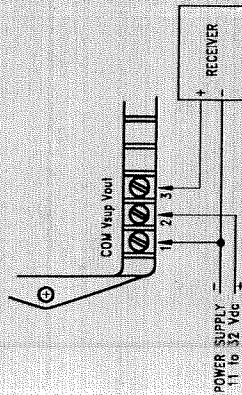
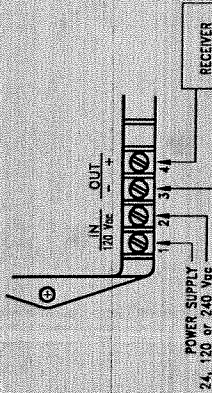

Figure 1
Figure 2
A. Series T10 or T20- With the voltmeter connected across the signal terminals (see Figure 1 or Figure 2, respectively), apply full pressure to the instrument and adjust the Span potentiometer R1, until the output reading is 5.00V (if 0-5V Span) or 10.00V (if 0-10V Span).
- There are three terminals for electrical connections (see Fig. 1)
The power supply leads are connected to the two leftmost terminals (terminals 1 and 2) on the terminal strip (see Figure 2). The output signal is accessed across terminals 3 and 4, the rightmost terminals, labeled "−" and "+" (see Figure 2). The signal output is transformer-isolated from the power supply. The output signal is totally floating and either the "−" or the "+" terminal may be grounded.